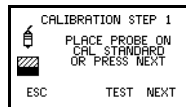

Figure 30. Step 1 - on thickness standard
1. Hold probe in air and press **CAL** softkey (Figure 30).